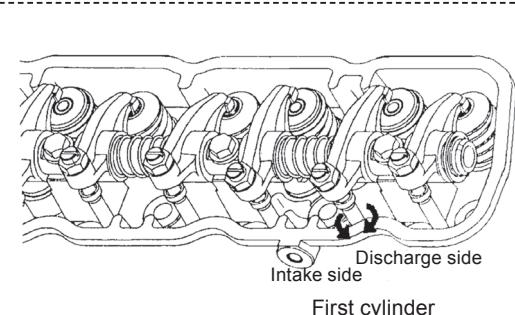
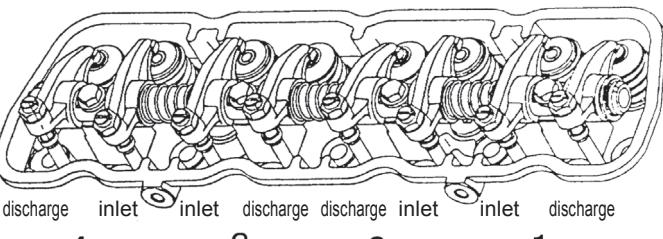

Figure 6 Check the compressor top dead point
Figure 7 Location of each valve
- 3) Rotate the intake and discharge side pushrods for the first cylinder with your fingers, checking that they move easily (Figure 6). If they move easily, it means that the first cylinder is at compression top dead center. Perform the valve clearance adjustments that are marked ● in Table 1 below (Figure 7).
- 4) If the check above is not successful, rotate the intake and discharge side pushrods for the fourth cylinder with your fingers, checking that they move easily. If these rods move easily, it means that the fourth cylinder is at compression top dead center. Perform the valve clearance adjustments that are marked ○ in Table 1 below (Figure 7).